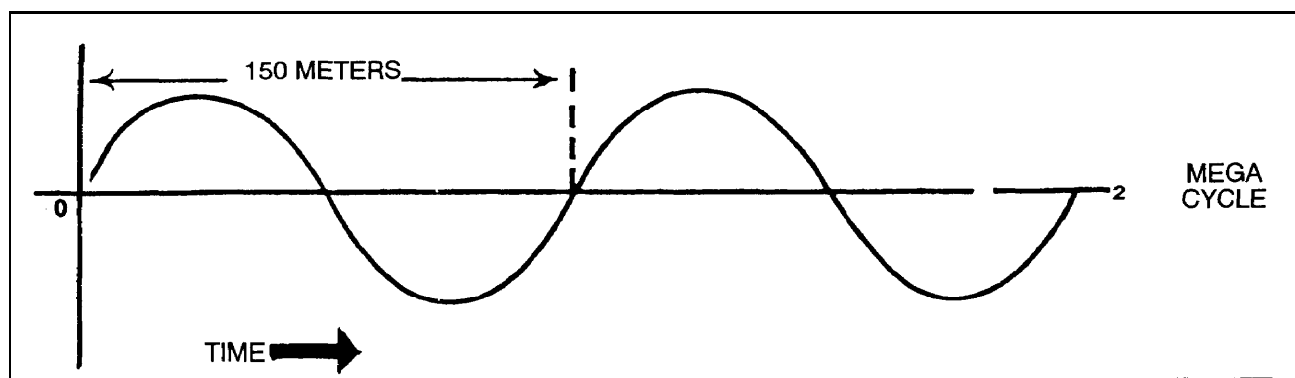

Figure D-5. Measurement of a wavelength.
a. **Wavelength and Frequency.** In radio communication, there is a definite relationship between antenna length and frequency wavelength. This relationship is important when building antennas for a specific frequency or frequency range. The wavelength of a frequency is the distance an electromagnetic wave travels to complete one cycle. (See Figure D-5.)